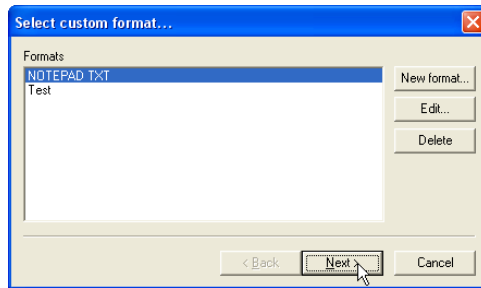

Figure 3-25. Select Custom Format
2. Select the format type and click **Next** (Figure 3-25). See “Creating Custom Import/Export Formats for Text Files” on page 2-2 for creating new or editing current formats (Figure 3-25).